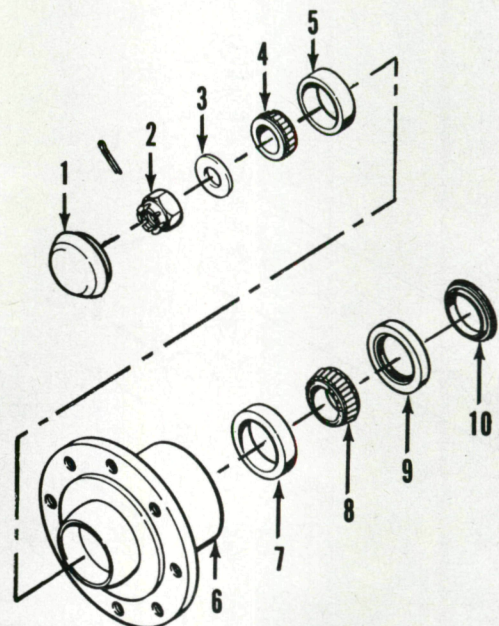

Fig. 1—Exploded view of wheel hub and bearing assembly used on all two-wheel drive tractors.
1. Refer to Fig. 1 for typical wheel hub and bearing assembly.